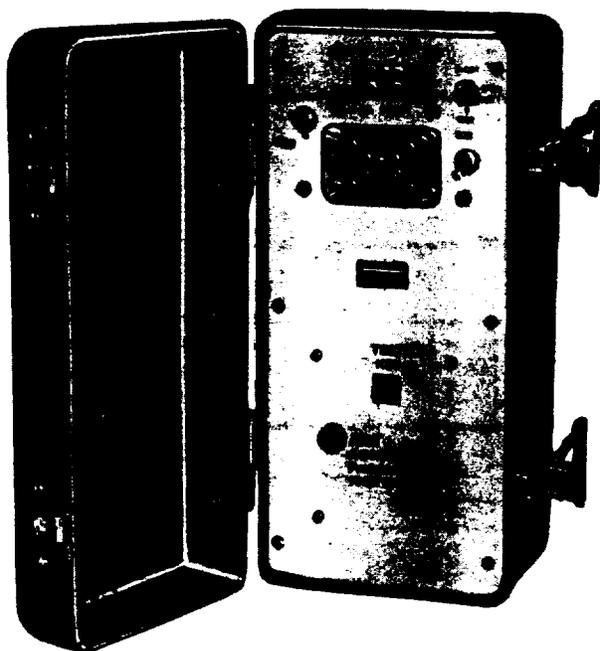

Figure 47—A4H402, L1 Protector Breakdown Test Set
5.04 The protector breakdown test set (Figure 47) is an accurate, direct reading digital tester for measuring breakdown voltage of both gas tube and carbon surge arresters. This test set has been approved by Bell Laboratories and is modified to include testing capabilities for 4CF-type and 3D1F-type protectors used with 5ESS® switch offices.